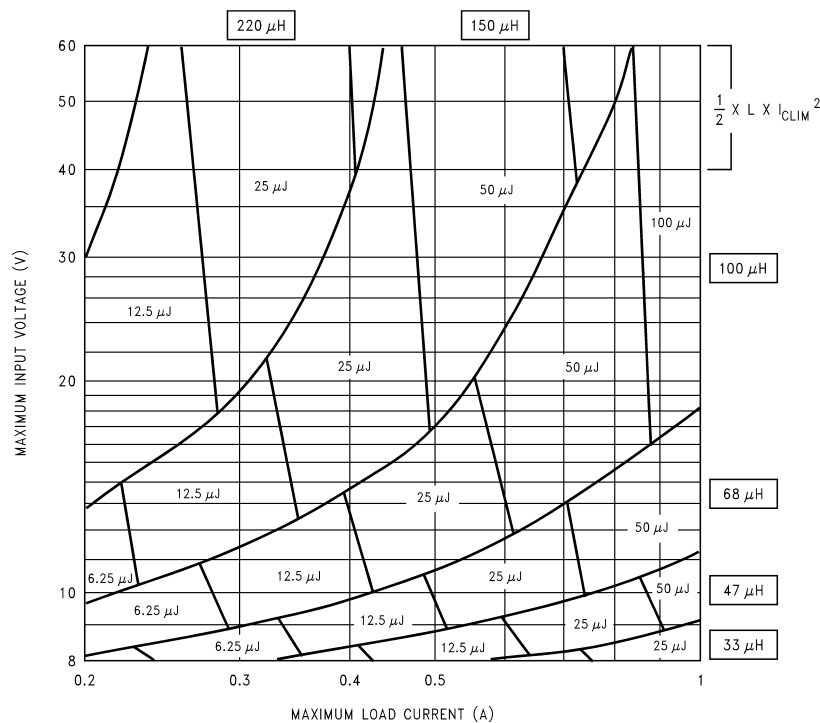

Figure 29. LM2590HV-5.0-AQ
1. A first pass inductor selection is based upon *Inductance and rated max load current*. We choose an inductor with the Inductance value indicated by the nomograph (Figure 29) and a current rating equal to the maximum load current. We therefore quick-select a 100μH/0.8 A inductor (designed for 150 kHz operation) for this application.
2. We should confirm that it is rated to handle 50 μJ (see Figure 29) by either estimating the peak current or by a detailed calculation as shown in AN-1197, and also that the losses are acceptable.
1. A first pass inductor selection is based upon *Inductance and the switch current limit*. We choose an inductor with the Inductance value indicated by the nomograph (Figure 29) and a current rating equal to I_{CLIM} . We therefore quick-select a 100μH/3A inductor (designed for 150 kHz operation) for this application.